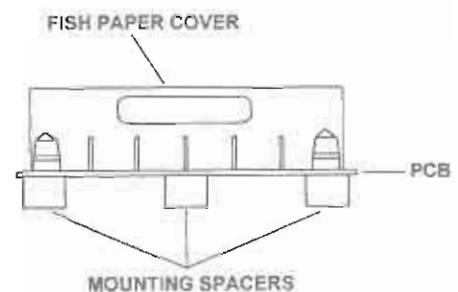

Figure 3-4. PCB cover.
e. Remove the fish paper cover from the control circuit PCB (fig 3-4) by grasping it lightly with your fingers and pulling upward. Set it aside.